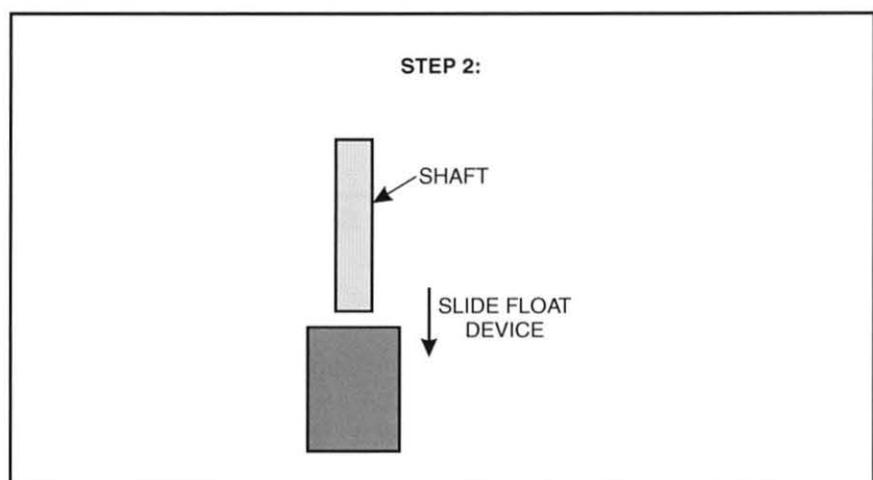

Figure 18. Remove Float Device
B. Slide the float device off the shaft, as shown in figure 18.